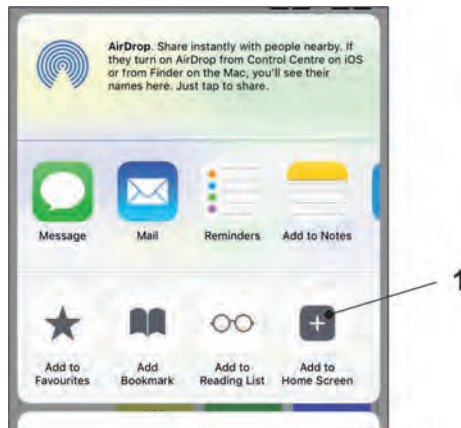

Fig. 31-17 To Home screen
9. Select "To Home screen" (Fig. 31-17 Pos. 1).